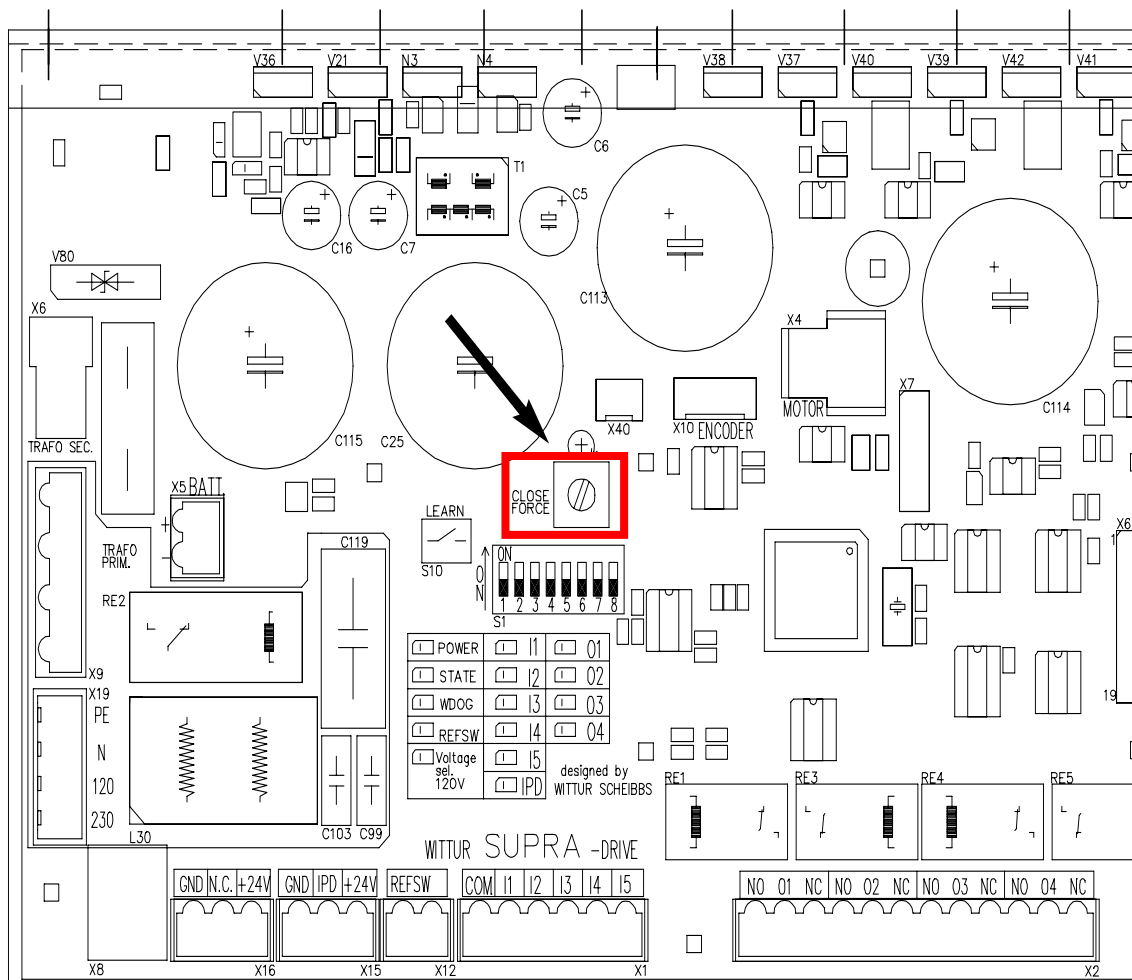

Figure 56 Adjust Potentiometer Closing Force on Supra Board
5. If the door closing force requires adjustment, remove the door operator board cover and use the Close Force potentiometer on the Supra board to adjust the closing force. See Figure 56.